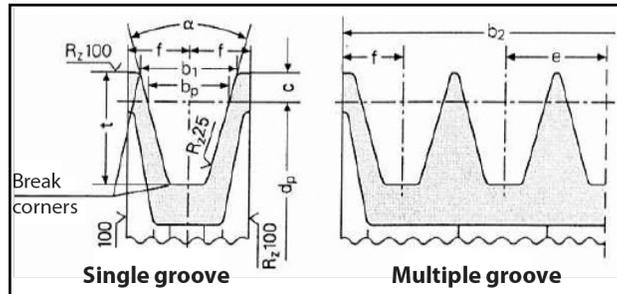

Fig. 8
A) Use pulleys with V-belts with the size of the groove required/recommended by the manufacturer of belt used. In the absence of directions, follow fig. 8 and the table in fig. 9.